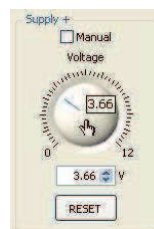

Figure 6
12. Vary the Variable Power Supplies' positive output voltage by using the mouse to "grab and turn" the **soft** *Voltage* control on-screen (see Figure 6).